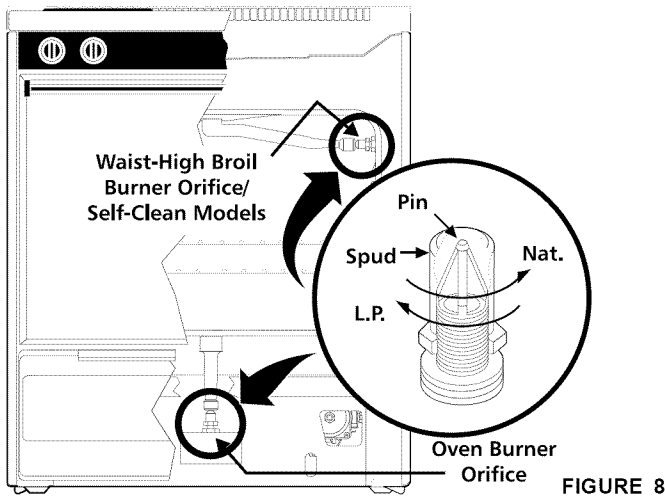

FIGURE 8
- Locate the oven burner spud (See Figure 8).
- Locate the broiler burner spud and turn down until snug against the LP/Propane metering pin (approximately 2-1/2 turns). **Do not over tighten** (See Figure 8).